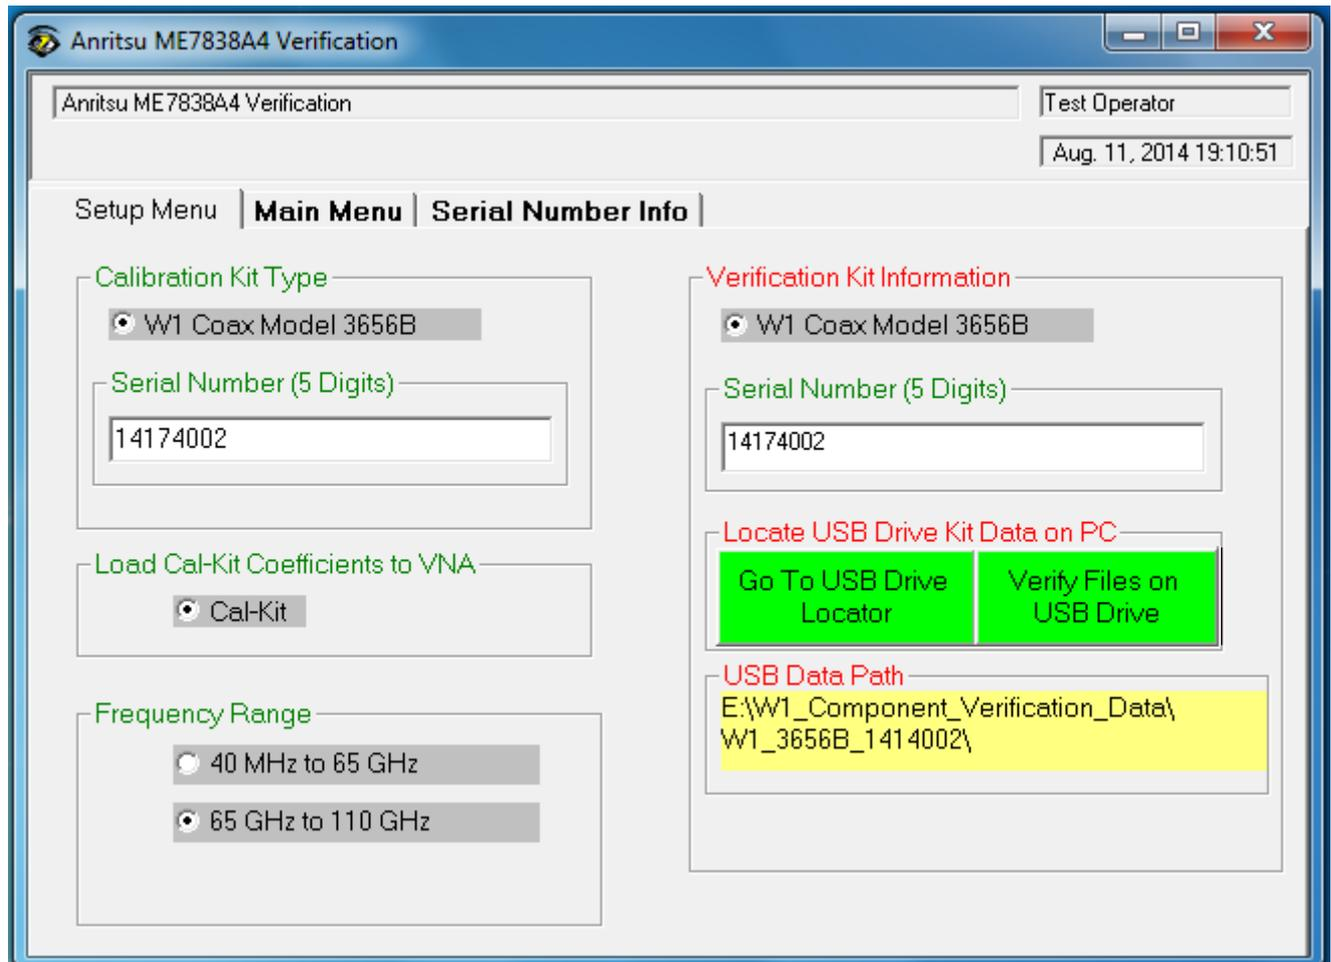

Figure 4-27. ME7838A4 Application Interface – Setup Menu Tab
9. In Figure 4-27 find the Locate USB Drive Kit Data on PC area, click the Go To USB Drive Locator button.